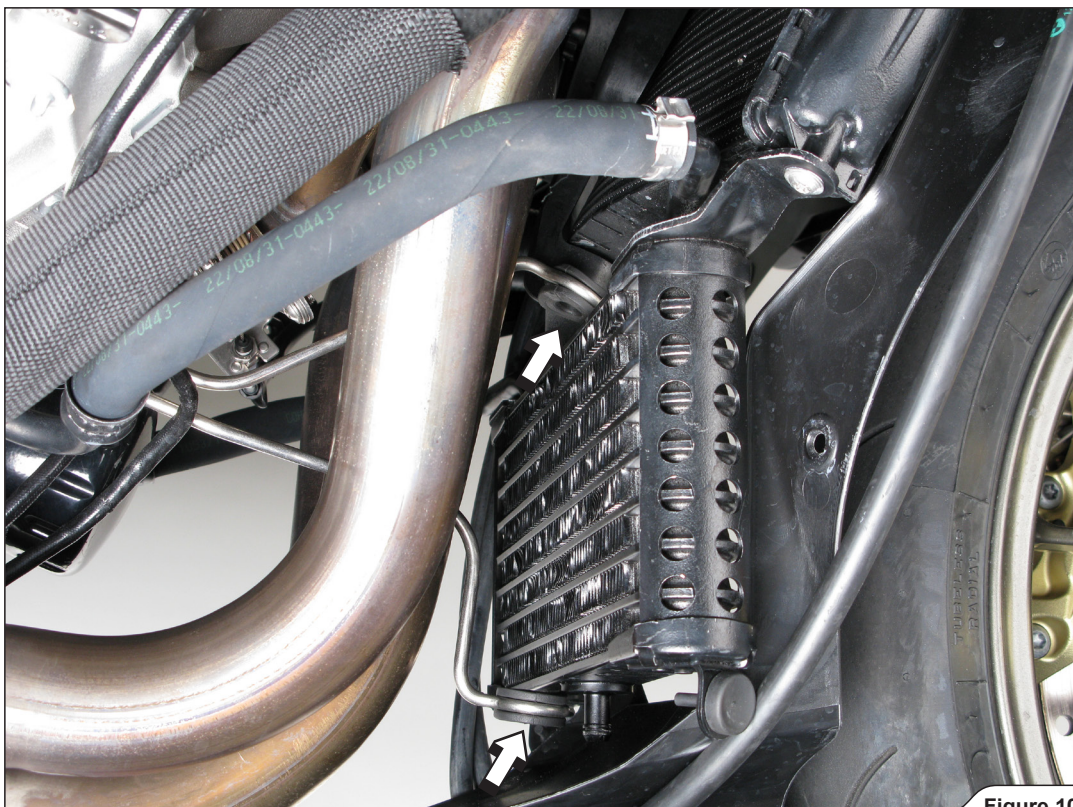

Figure 10
9. Pull the radiator's bracket off the radiators (Figure 10).